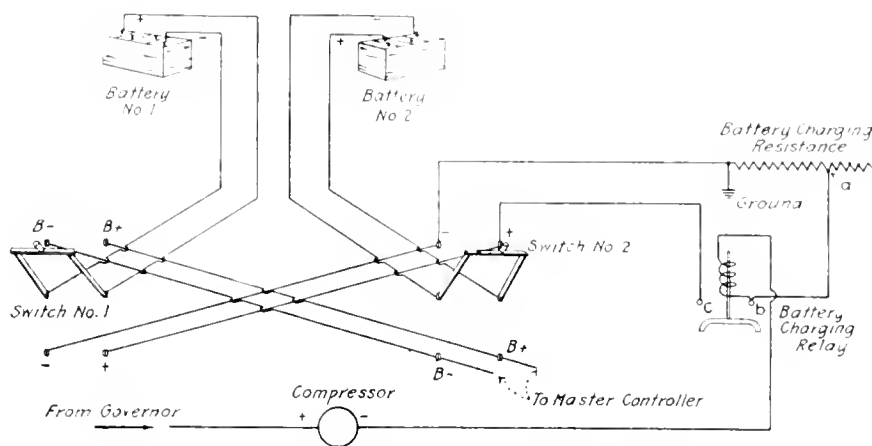

FIG. 15. DIAGRAM OF CONNECTIONS FOR BATTERY CHARGING D. C.
A. The diagram of connections for battery charging with D. C. operation is shown by Fig. 15. It is noted that the negative side of the compressor is connected to the coil of the relay "B" known as the battery charging relay and from there connection is made to the battery charging resistance. When the governor closes and the compressor operates, the current flowing through the compressor flows through the relay coil to point "a" on the resistance, hence through the resistance to the ground.